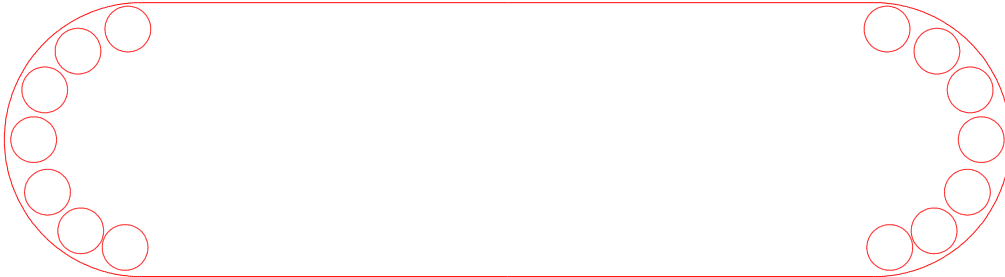

Figure 20.1.2
- 2) Use a 3” hole saw to cut out the front skylights or drill a series of 1/4” holes around the perimeter of each corner radius as in Figure 20.1.2.